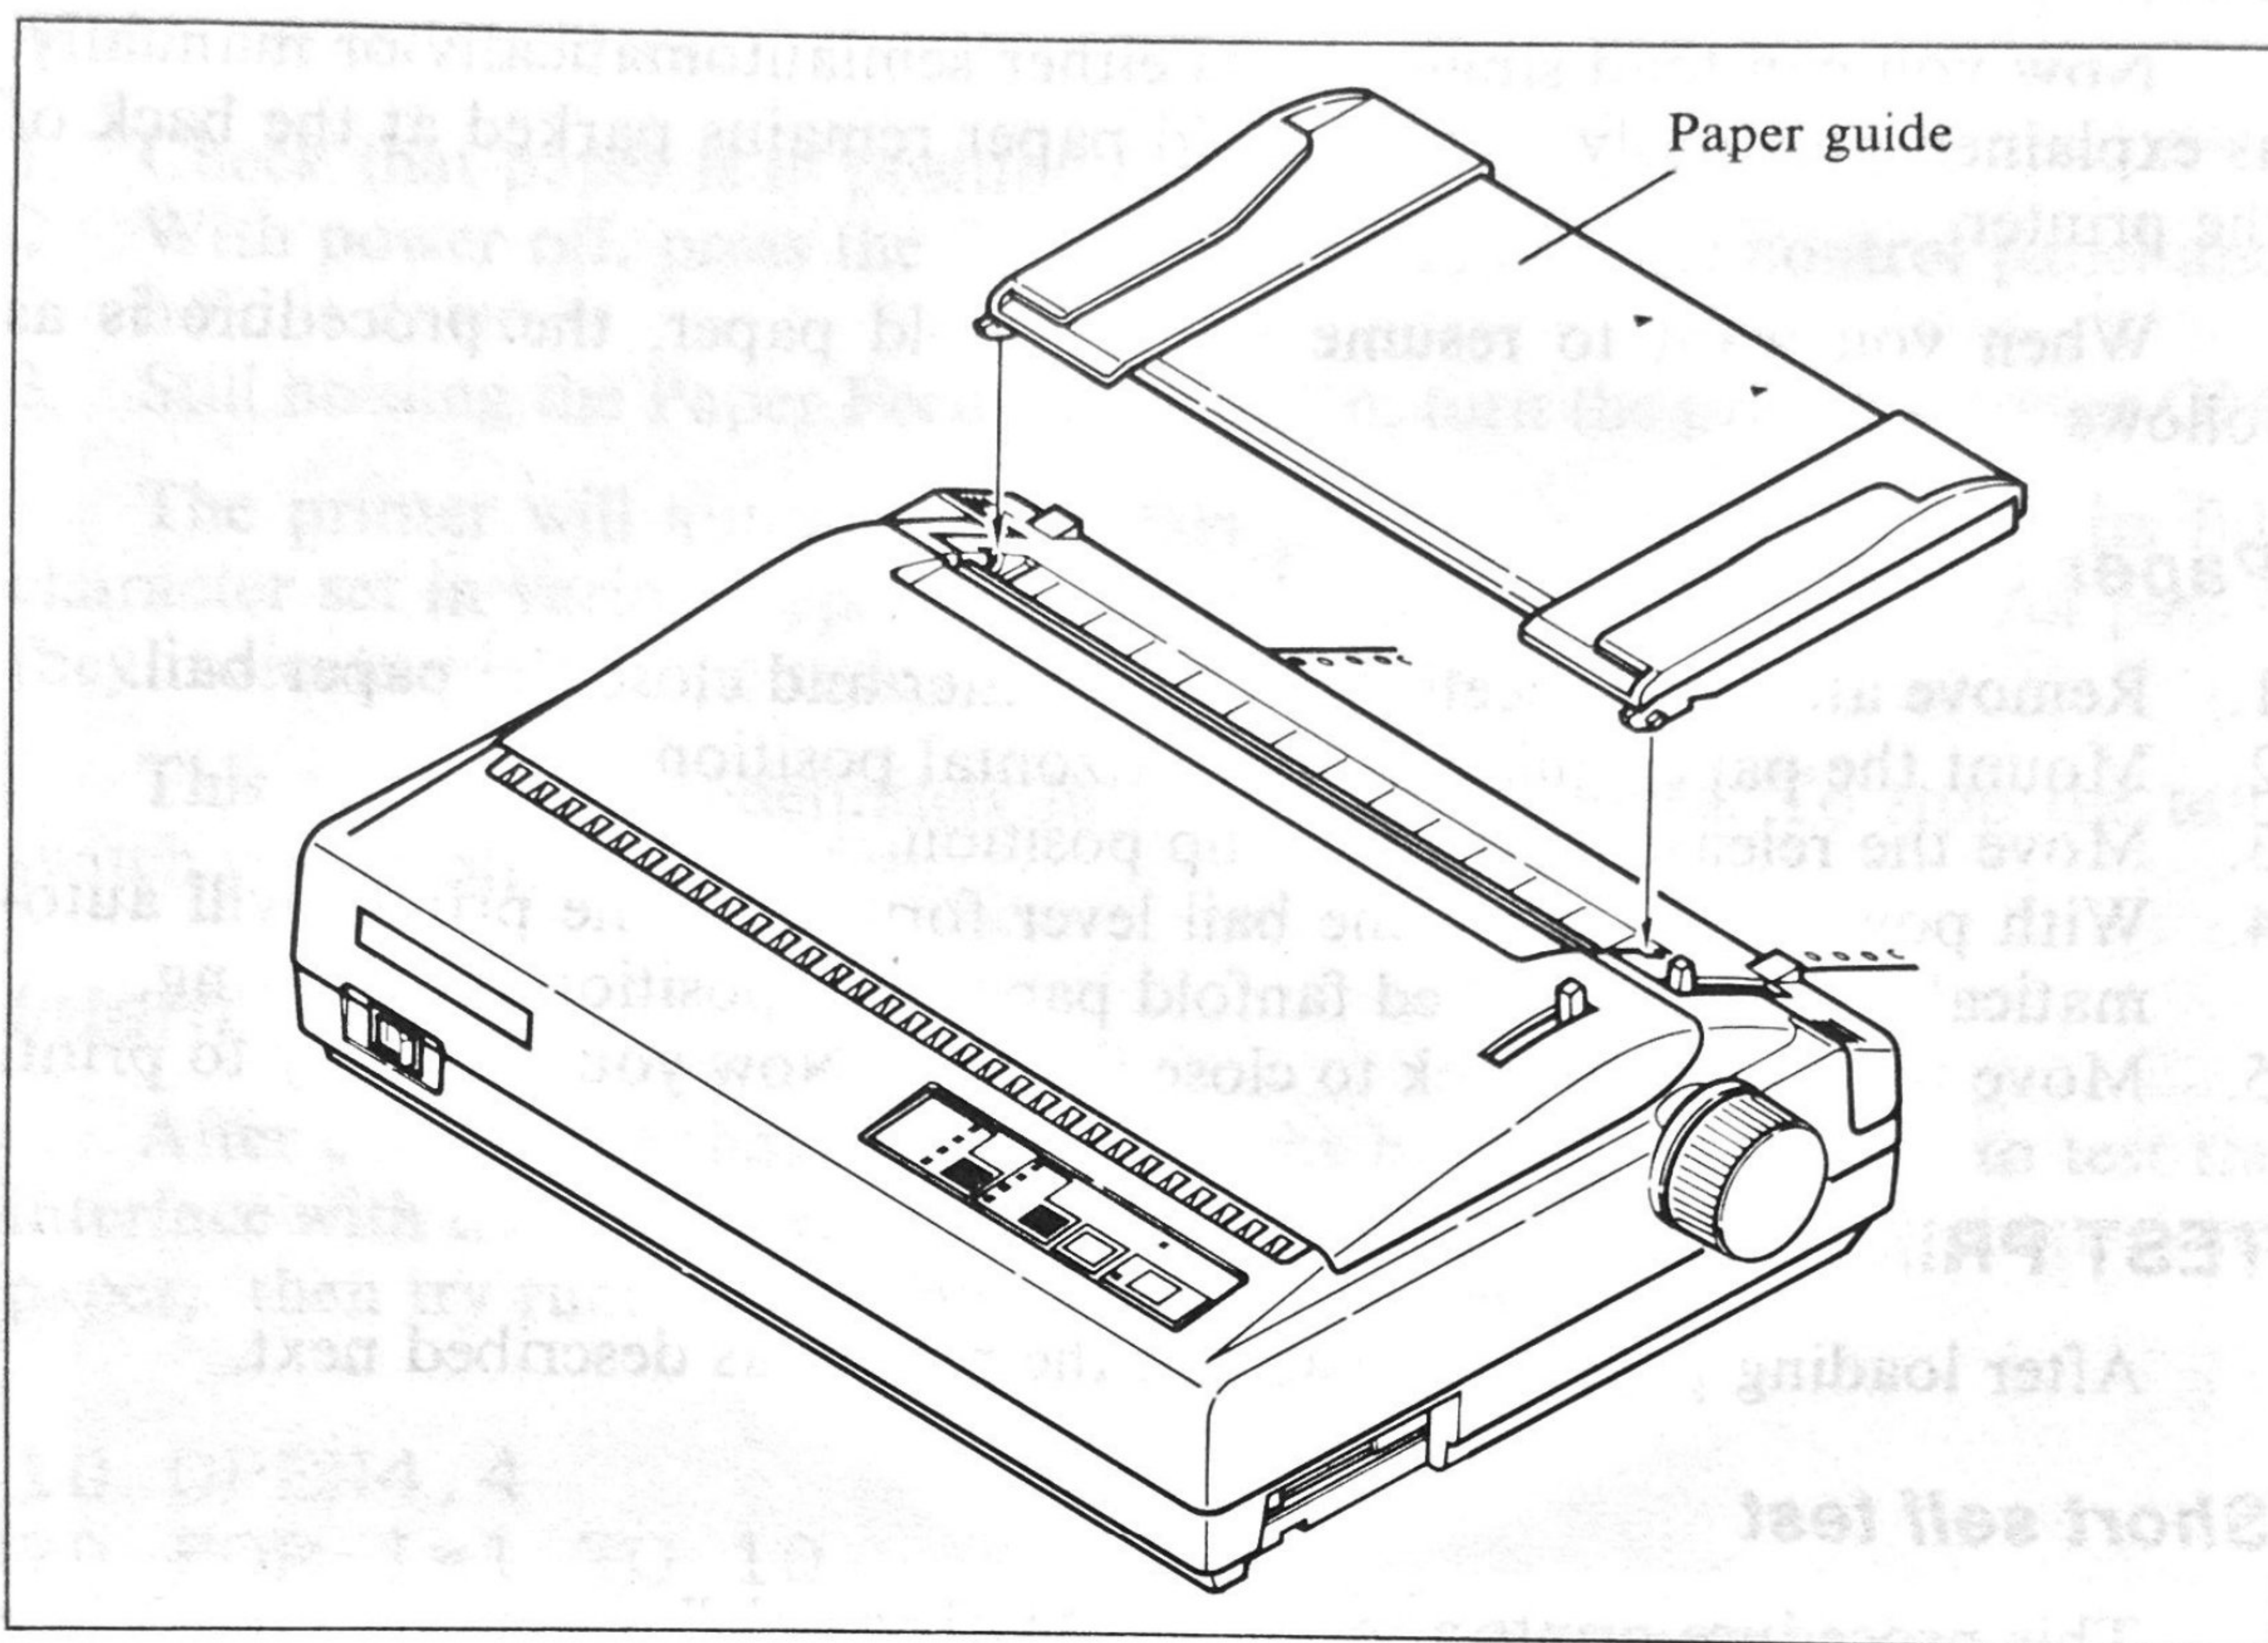

Figure 1-12. Mounting the paper guide for fanfold forms
17. Mount the paper guide in the horizontal position shown in Figure 1-12, so that it will separate the printed from the unprinted paper.